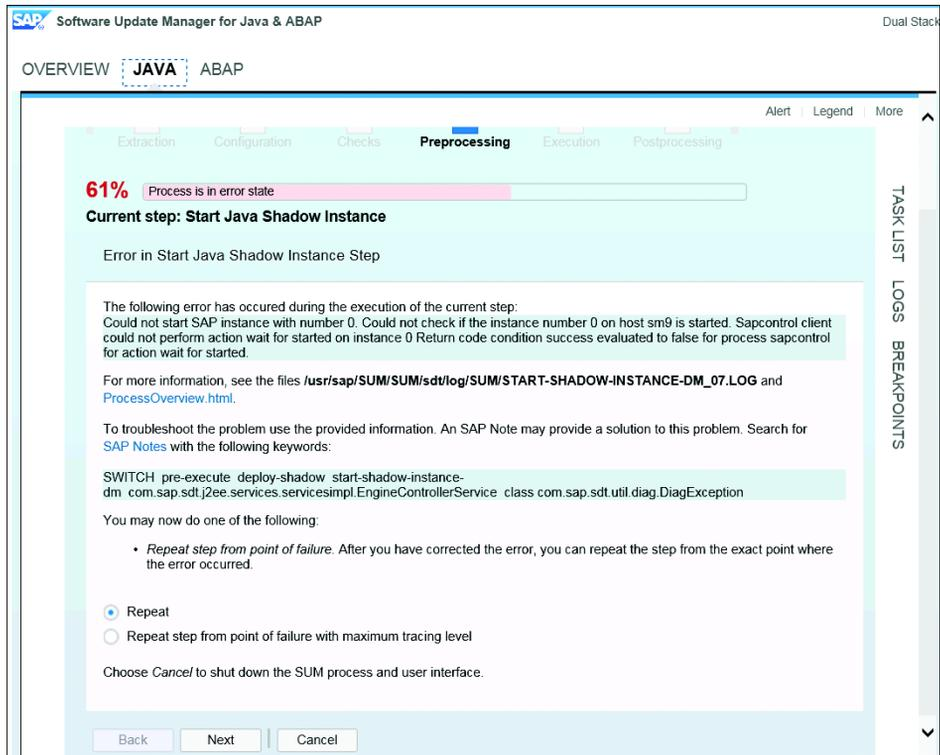

Figure 60 Error When Starting Java Shadow Instance
2. When SUM attempted to start the Java stack shadow instance, it failed to connect to the central instance 00. Figure 60 displays this error. To resolve this issue, add the profile parameter `service/protectedweb-methods = NONE` to `DEFAULT`, the central instance, and the SCS message server profiles. You will find the profiles in directory `/usr/sap/SUM/sdt/system/<SID>/SYS/profile`.